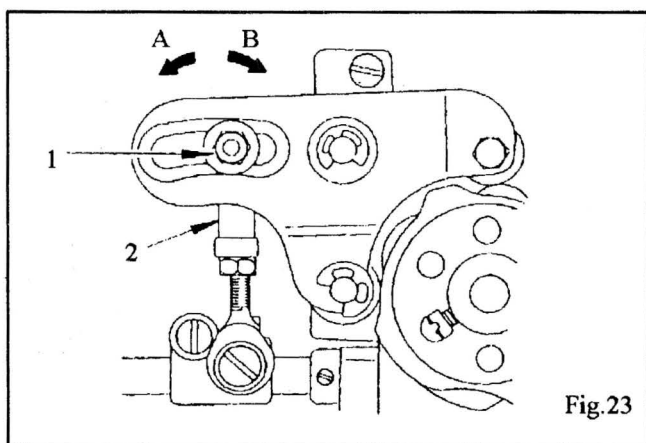

Fig.23
To regulate the stitch length, tip machine back on its hinges, loosen lock nut (1) and turn rod (2), as required. (Fig. 23)